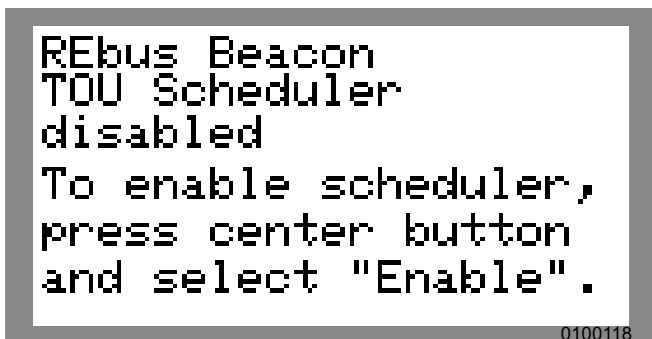

Figure 6-20. Disabling Beacon (3 of 3)
4. See Figure 6-20. The status line on the Generac Beacon device page will read Disabled.